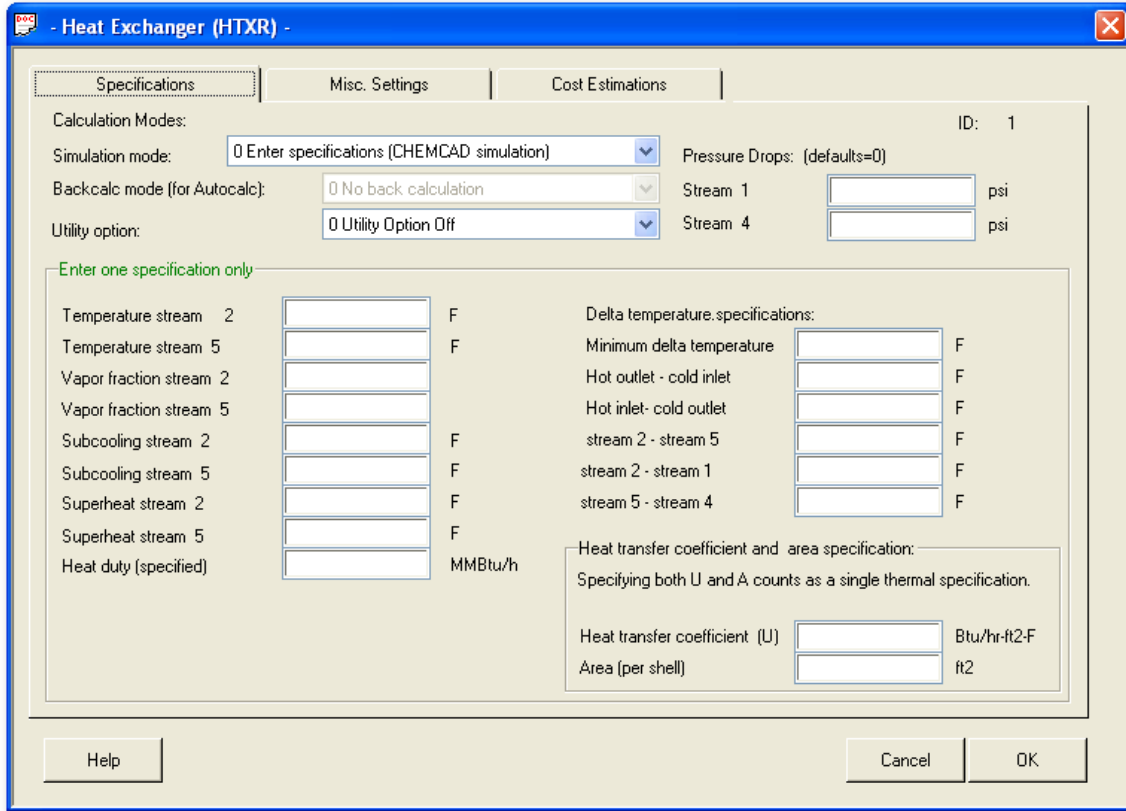

Figure 10: The Heat Exchanger dialog box
1. Double-click the flowsheet icon for the first heat exchanger. The Heat Exchanger dialog box will appear, as shown in Figure 10.